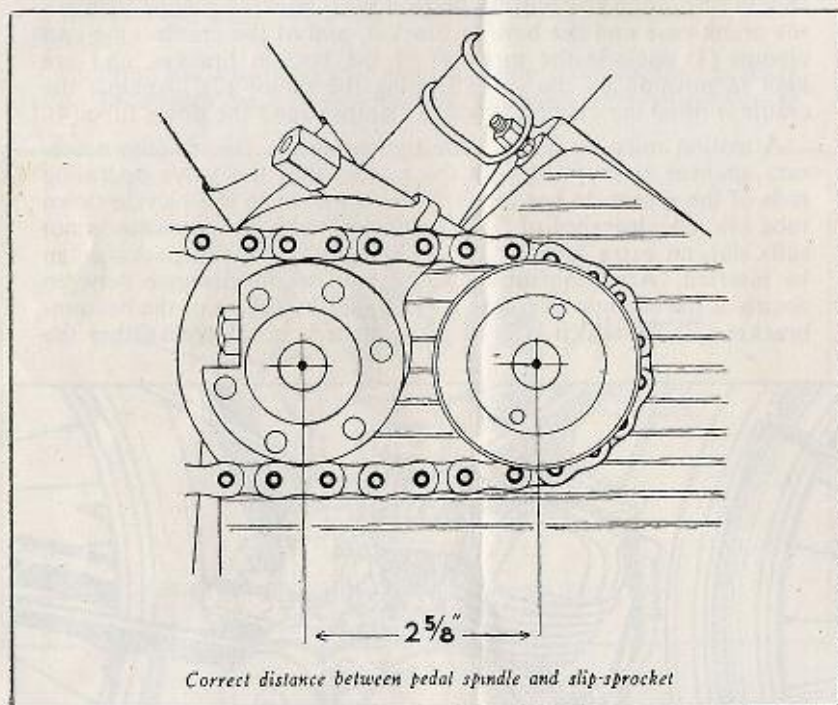

Fig. 4
Attention must be given while tightening the clamps (the necessary spanner is supplied with the motor) that the valve operating rods of the motor do not touch or are too near to the bicycle down tube (4). (A clearance of $\frac{3}{32}$ " is sufficient). If the clearance is not sufficient, an extra layer or two of red fibre or metal packing can be inserted. Attention must also be paid to the distance between centre of the slip sprocket (see Fig. 4) and the centre of the bottom-bracket spindle, which is $2\frac{5}{8}$ ". If distance is not correct either the